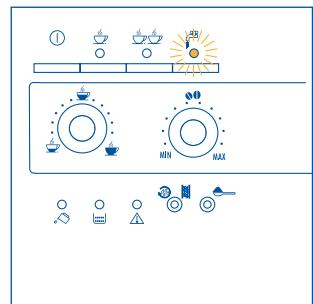

Fig.22
- Place an empty container under the cappuccino frother (fig. 3). Turn the steam knob a half turn counter-clockwise as far as it will go (the light flashes fig. 22). Run off the steam mixed with water for a few seconds until only steam is given off.